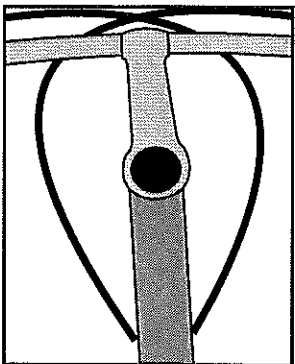

Fig. 12
3. The cables go around the head tube; the left shift cable enters the front of the top tube on the right side. The right shift cable enters the top tube on the left side (Fig. 12). This routing results in low cable friction and prevents the housing from rubbing on the paint of the head tube.